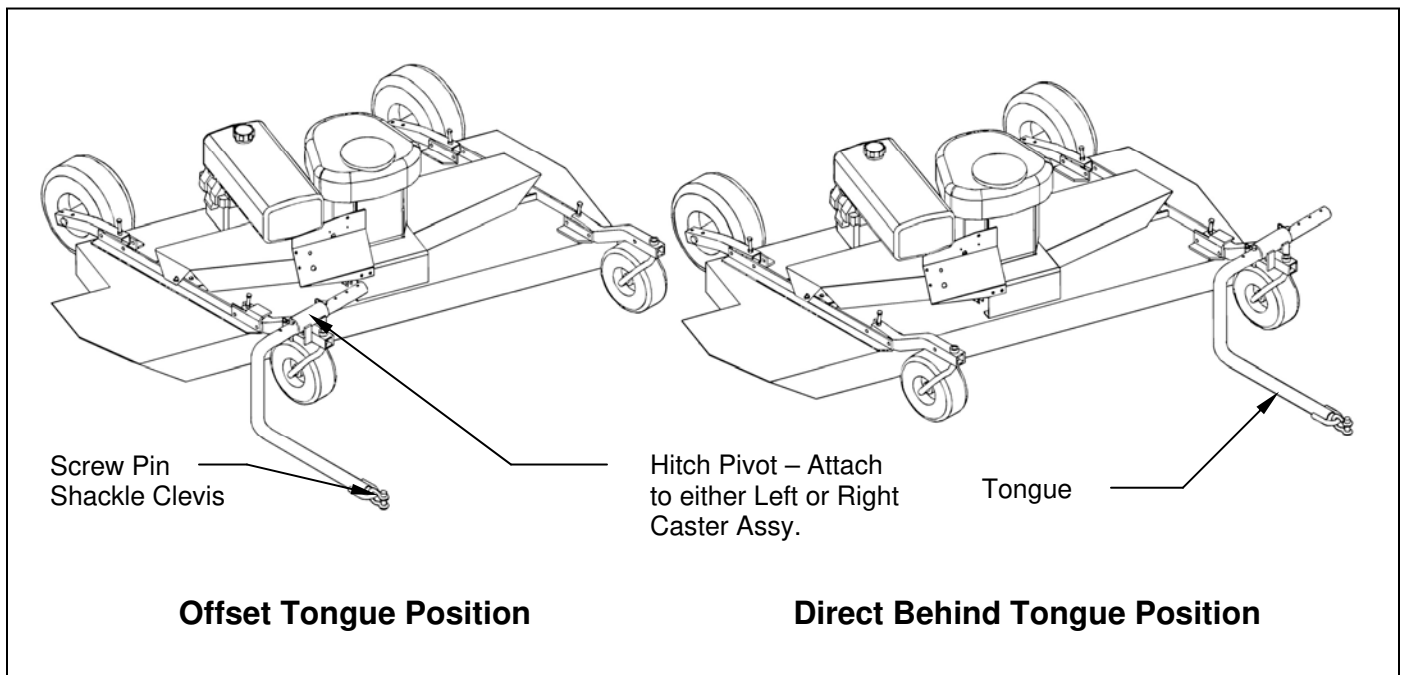

Figure 4. Assembly of Hitch Pivot and Tongue
1. The tongue can be installed either on the left or right caster assembly depending on how the wing mower will be towed. **See figure 4.** Secure the hitch pivot on the chosen caster assembly with the 3/8" x 2-1/2" hex head bolt, lock washer, and nut provided.
Note: When pulling the wing mower directly behind, it is most maneuverable when the hitch pivot is fastened on the left carrier arm. **See Figure 4.** When pulling the wing mower in the offset position, it is most maneuverable to have the hitch pivot fastened on the right carrier arm. **See Figure 4.**